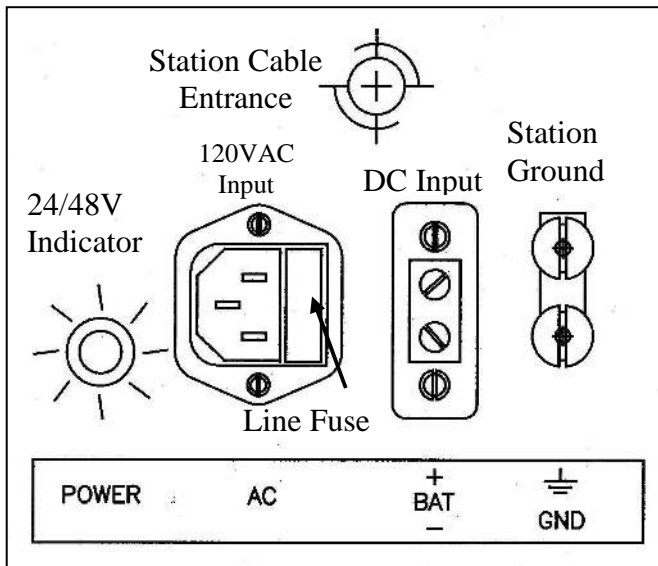

Figure 1: Station Connectors
- i) The upper right side of the card shelf has a 1/2 inch-14 NPT threaded hole for the strain relief. It is shown in the Figure 1 above as the station cable entrance.
Just below the station cable entrance is a cluster of four items. See Figure 1.